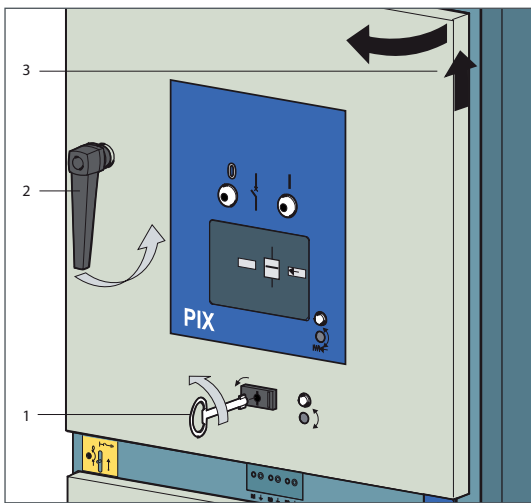

Fig. 4.3
- Insert double-bit key into the door opening and turn it to the left (Fig. 4.3, 1); the door is unlocked.
- Insert handle with the lever pointing down, and turn handle to the left (2); the front door is lifted.
- To open the door, swing it to the left (3).